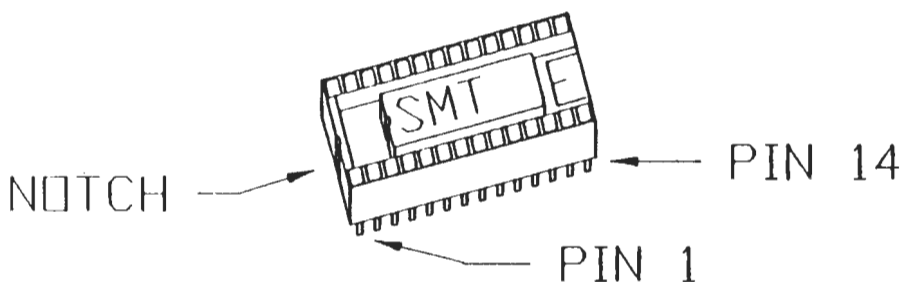

Figure 9
6. Look at the No-Slot Clock. At one end of the clock you will notice an indentation. This is the pin 1 end of the clock. At the other end you will notice a big E. This is the pin 14 end. DO NOT MIX UP PIN 1 WITH PIN 14. See figure 9.